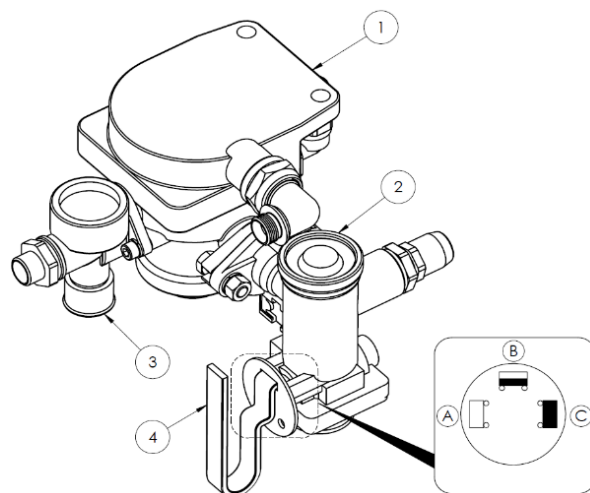

Figure 10 The control valve and brake-force-control system for 2-line pneumatic brakes
Braking-force-control system (2) in Figure 10 is used in the pneumatic braking system to adjust the braking force according to the degree of the structure load. Switching to the correct operation mode is done manually by shifting the position of the lever (4). It is operated by machine operators before they start driving. Three work settings are available - (A) "UNLADEN", (B) "HALF LOAD", (C) "FULL LOAD".